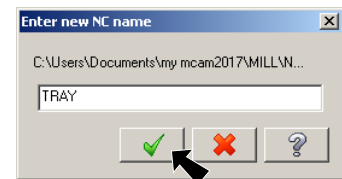

Fig. 58
Step 2. Click OK in the NC name dialog, **Fig. 58**.